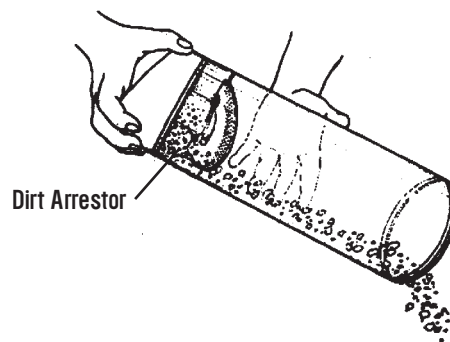

Figure 19b
3. Make sure there is not a buildup of dirt or debris above or below the Dirt Arrestor. (See Figure 19b.)